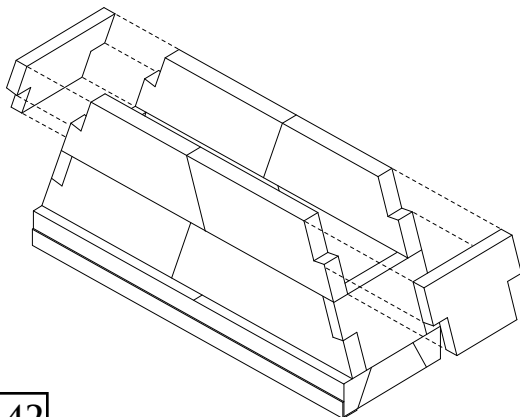

FIGURE 42
**Step 19:** Place one of the angle cut smoke dome top medium pieces at the front and one at the back of the first tier smoke dome so that they meet the smoke dome large (cut to 49 3/4" bottom length) already set in Step 11. (Figure 42)
**Step 20:** Set the smoke dome sloping side walls, part 34, in place between the front and back smoke dome arrangements at their proper locations at each end of the smoke dome. (Figure 42).